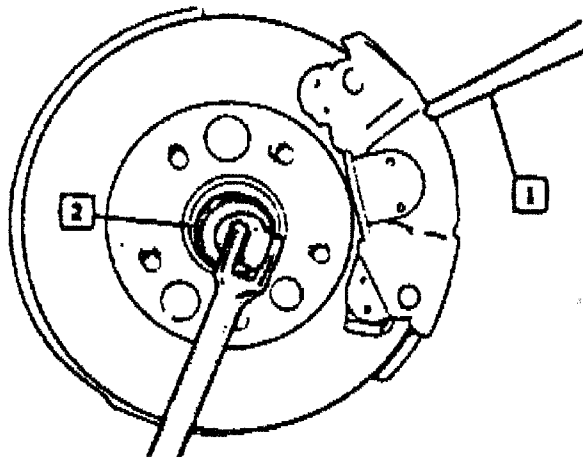

Fig. 7 Axle Shaft Nut Removal.
2. Install a brass drift or a screwdriver to prevent the rotor from turning, Fig. 7.
7. Insert a screwdriver or drift into caliper and rotor to prevent rotor from turning, Fig. 7.